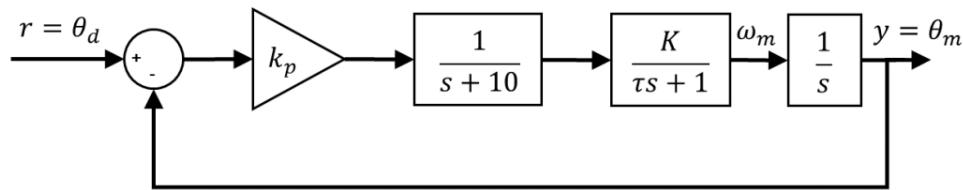

Figure 2: Closed-loop feedback block diagram.
- Given the feedback loop diagram in Figure 2, determine the closed-loop transfer function $\frac{Y(s)}{R(s)}$ in terms of k_p . Then substitute values for K and τ in from any of the modeling labs, or if no modeling lab has been done, $K = 24$ and $\tau = 0.1$ are good defaults.